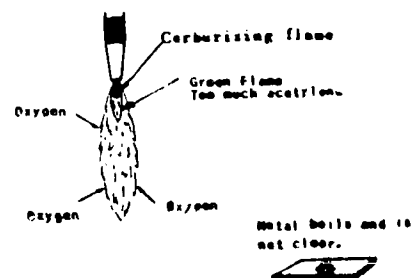

Figure 5-20. Carburizing Flame
----- CARBURIZING FLAME. The carburizing or excess acetylene flame (Figure 5-20) contains excess carbon. This flame is usually used for heating metal for soldering and brazing.